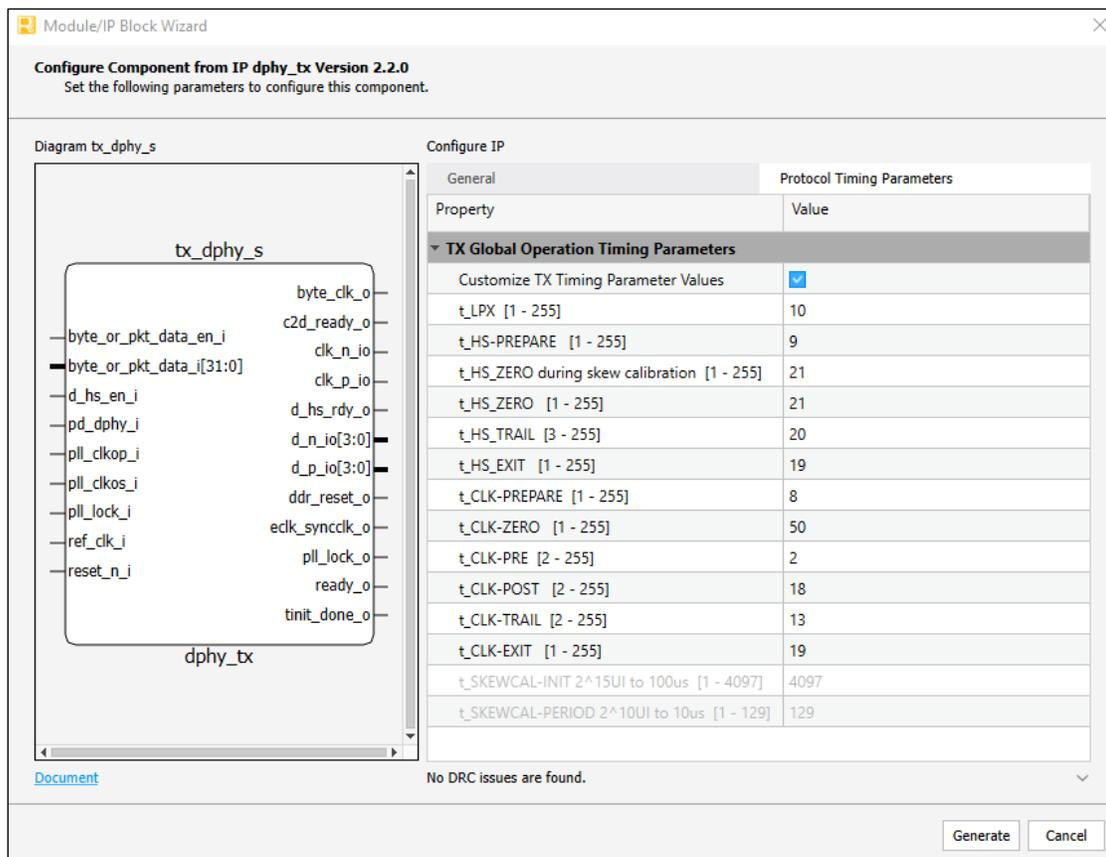

Figure 3.16. tx_dphy IP Protocol Timing Parameters Creation in the Lattice Radiant Software
- While generating a TX DPHY IP in the Lattice Radiant software, the Protocol timing parameters are set to appropriate values according to the TX DPHY General Clock settings as shown in Figure 3.16.